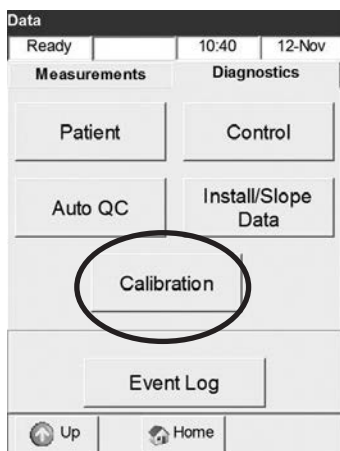

Fig. 7-47 Select Calibration
- To print a calibration diagnostics report, select **<Diagnostics -> Calibration>** in the **<Data>** screen (Fig. 7-47).